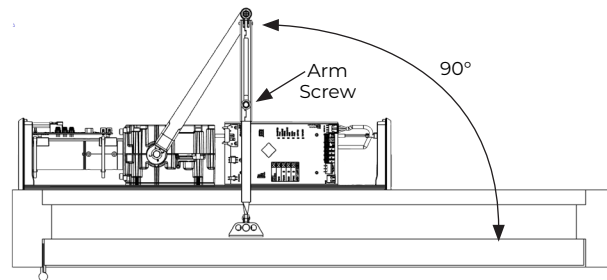

Figure 17 View: Looking up from floor
- Using an adjustable wrench, secure the main arm to bottom pinion with the 1/4-20x 1/2" screw. (Figure 17)
- Slide the main arm tube onto the forearm rod. (Figure 17)